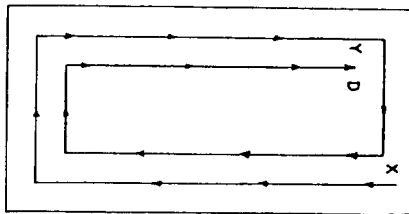

Figure 29. Corridor Mop Sweeping Pattern.
- (1) Begin along one side and sweep length of corridor, turn at end sweeping corner and along sides (fig. 29).
- (2) At starting point, shake mop, into dustbox (if V-type mop is used shake into a pile beside box).
(3) Continue sweeping in pattern shown in illustration until operation is completed.
(4) Gather sweeping pile into dustpan with counter brush and empty dustpan into dustbox.
(5) Remove gum or dirt sticking to floor by use of putty knife as it is reached in the course of sweeping.
(6) There should be no dust streaks, dirt in corners, or where dustbox stood. There should be no dirt where sweepings were gathered with counter brush and dustpan.